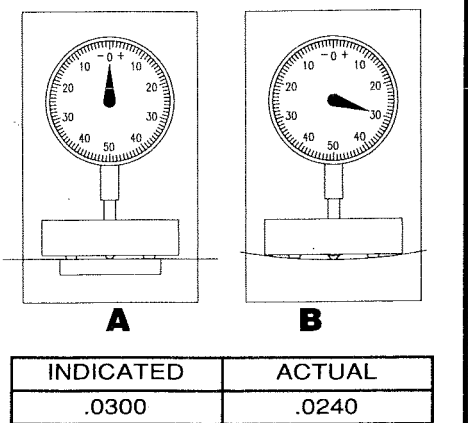

FIG. 3 BALLS AT 80% WEAR
Figure 3 illustrates the influence of flatness of the four (4) anvil balls shown to be worn to 80% of its original diameter. Figure 3A shows that the gage is re-zeroed to establish the datum line and Figure 3B shows the indicated extension for an Almen strip of 0.024" deflection. The error occurs due to contact with the outside edge of the anvil ball, not the tangency point that would have been available without wear.